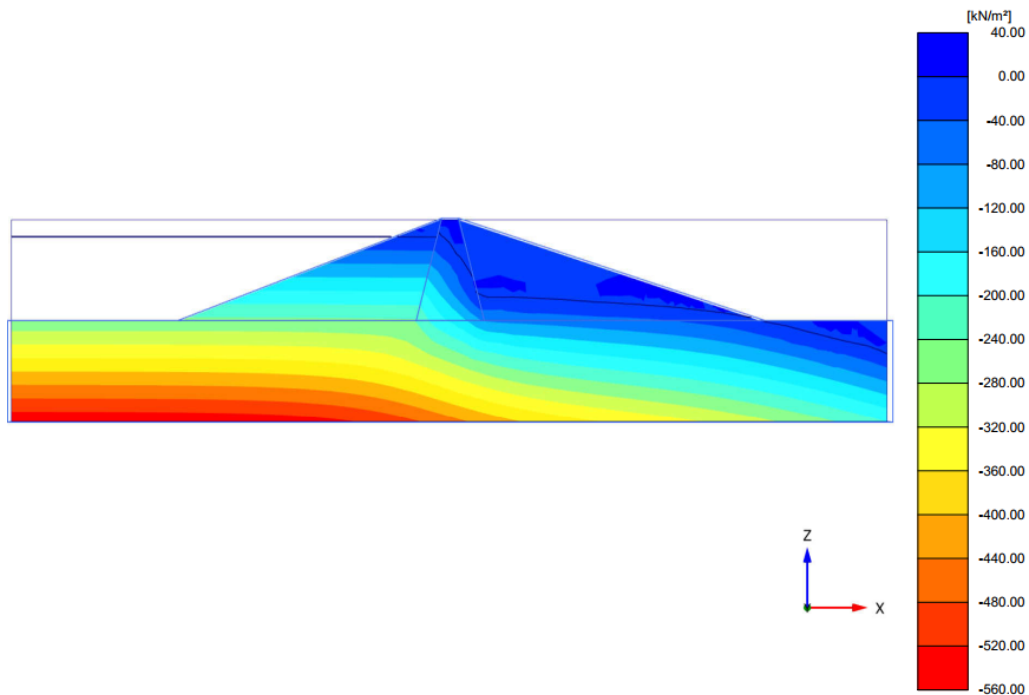

Figure 120: Pore water pressure distribution for high reservoir level (Initial phase)
- The situation with a high (standard) reservoir level - See Figure 120 (on page 147).